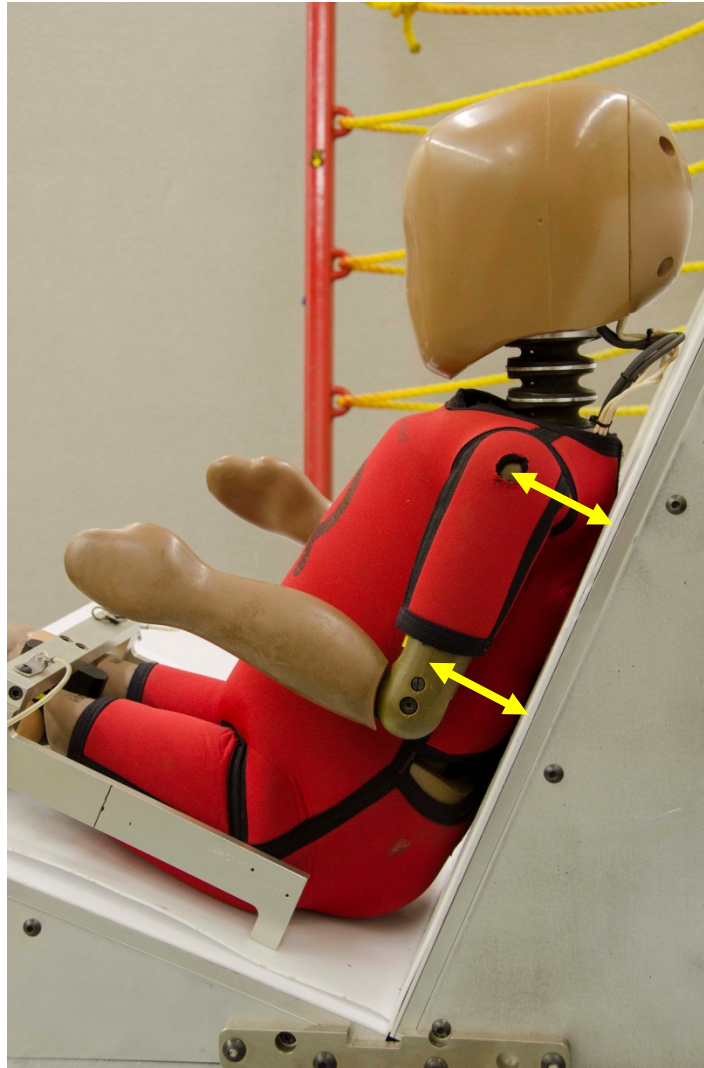

Figure 72. Using arm reference line to ensure that arm is parallel to seat back
- Position each arm so that the upper arm is parallel to the seatback; the lower arm should be perpendicular to the upper arm. To ensure that the arm is parallel to the seatback, measure the distance between the arm reference line (Figure 72) at the shoulder and the reference line near the elbow. Both should be equidistant from the seatback.